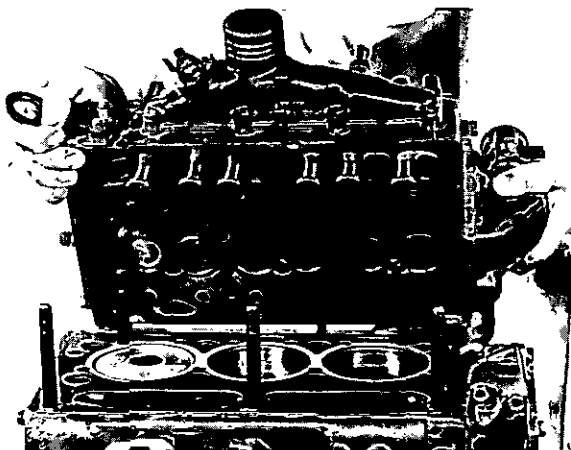

Fig. C.3
16. Remove cylinder head (Fig. C.3). Do not insert a screwdriver or any other sharp instrument between cylinder head and block. Place head on a flat surface, preferably wood, to avoid damage.